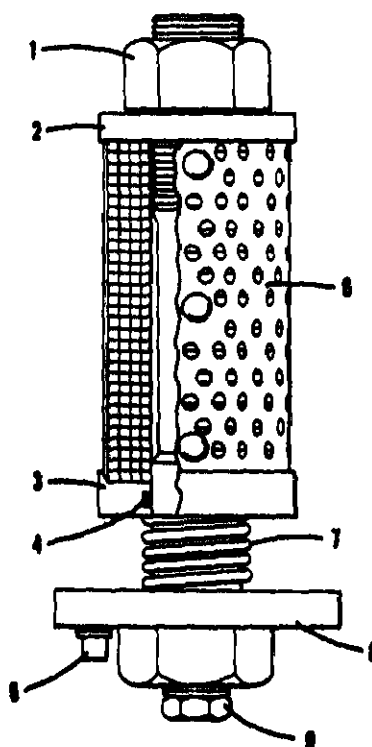

FIG. 11-15
- (b) Remove four capscrews Fig. 11-15, hold filter head in place and lower filter.